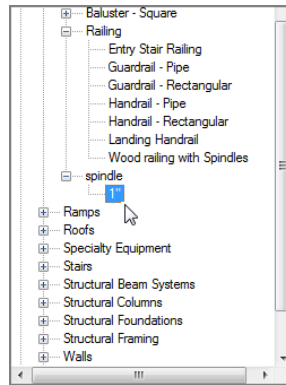

FIGURE 10.60: Finding the Spindle : 1" family to access the material
1. In the Project Browser, the Spindle category is just below Railing, as shown in Figure 10.60. Expand Spindle to expose the 1" (25mm) family.